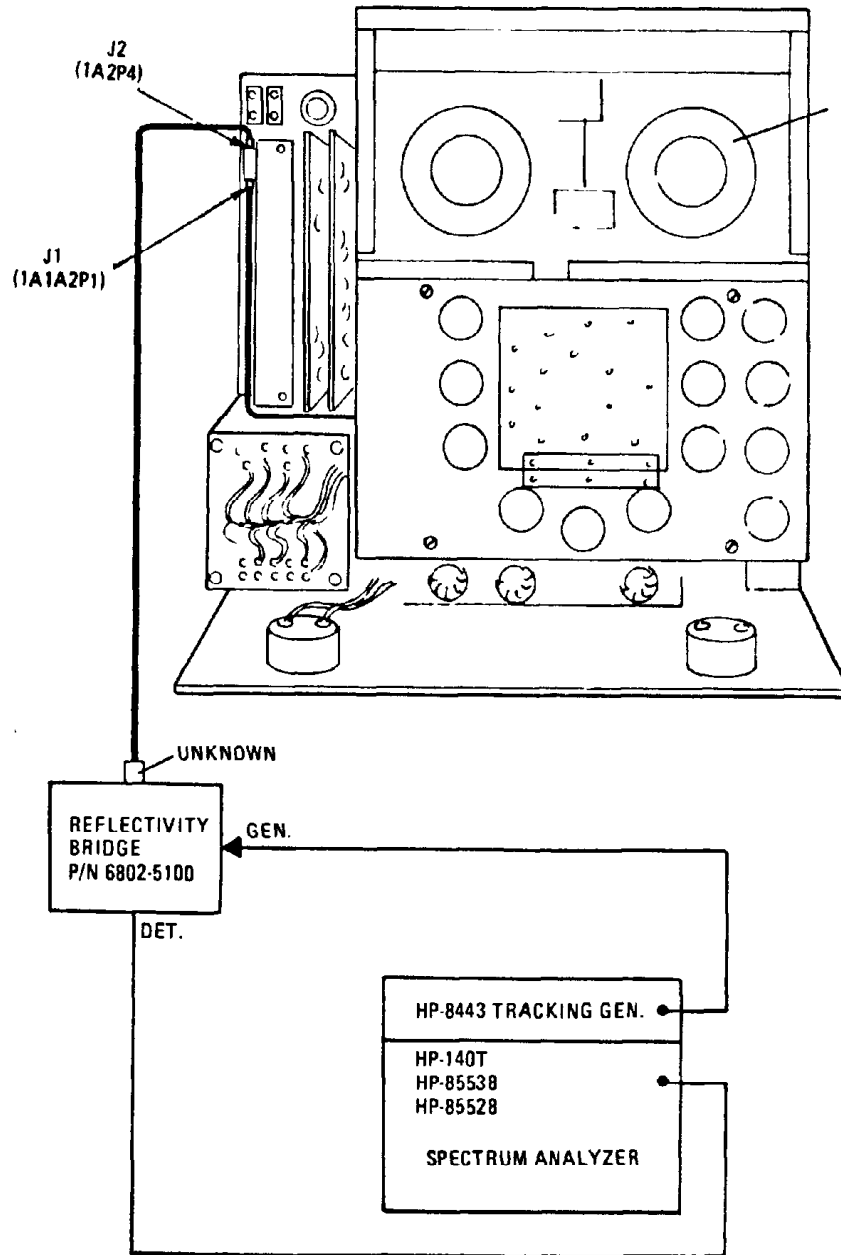

Figure 5. Final Transformer Assembly Alignment Test Setup
- (f) Connect the test equipment to the RF-110A as per Figure 5.